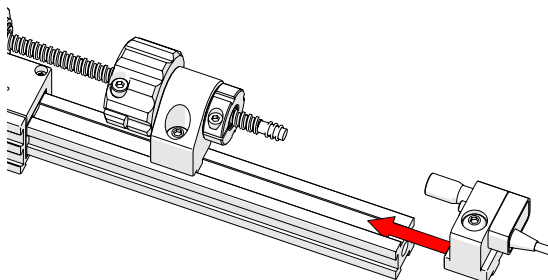
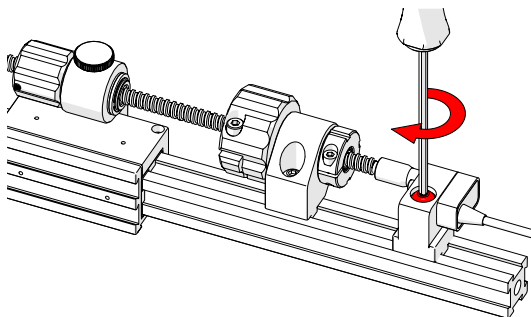

Fig. 70 - Loosen and slide post in place
Fig. 71 - Align and mount post
2. Slide the encoder's dovetail nut onto the frame bar (*Fig. 70*) and continue sliding the encoder towards the leadscrew until the leadscrew is pressed snugly into the encoder's coupling (*Fig. 71*).
3. Tighten the encoder's lock screw (*Fig. 71* - note red highlight).